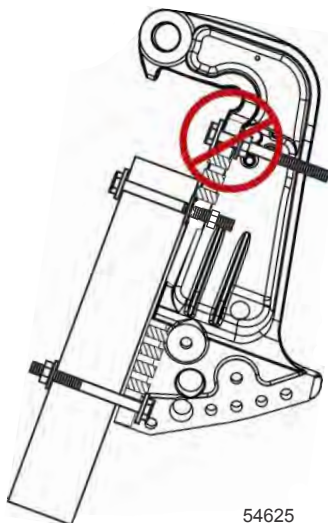

Figure 2
1. Do not mount an accessory to the transom clamp bracket in an unsupported condition. Refer to Figure 2.